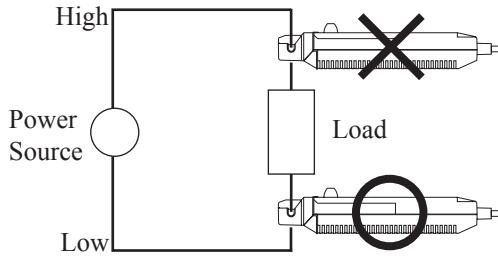

Figure 5. Low-voltage side of the circuit
- At high frequencies, common mode noise may affect measurements taken on the high voltage side of circuits. If this occurs, reduce the frequency range of the waveform measuring instrument or clamp onto the low-voltage side of the circuit (as shown in figure 5), as appropriate.